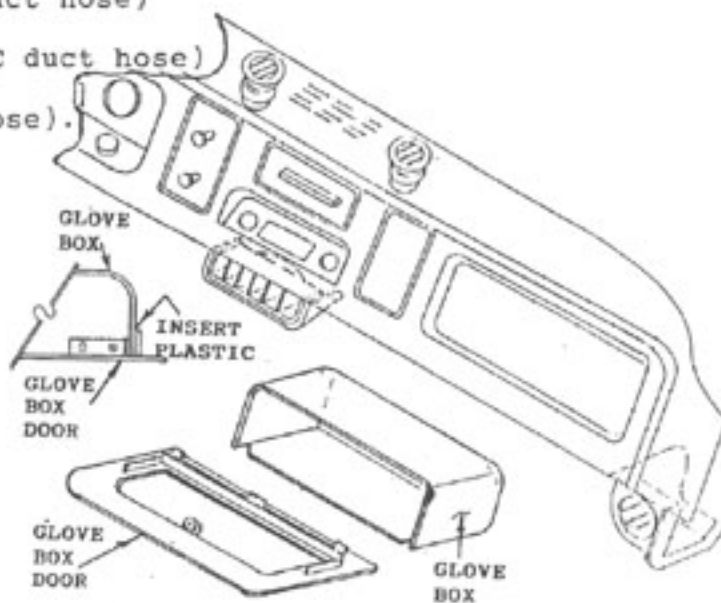

FIGURE 6
1. Install new glove box provided as Figure 6 shows.